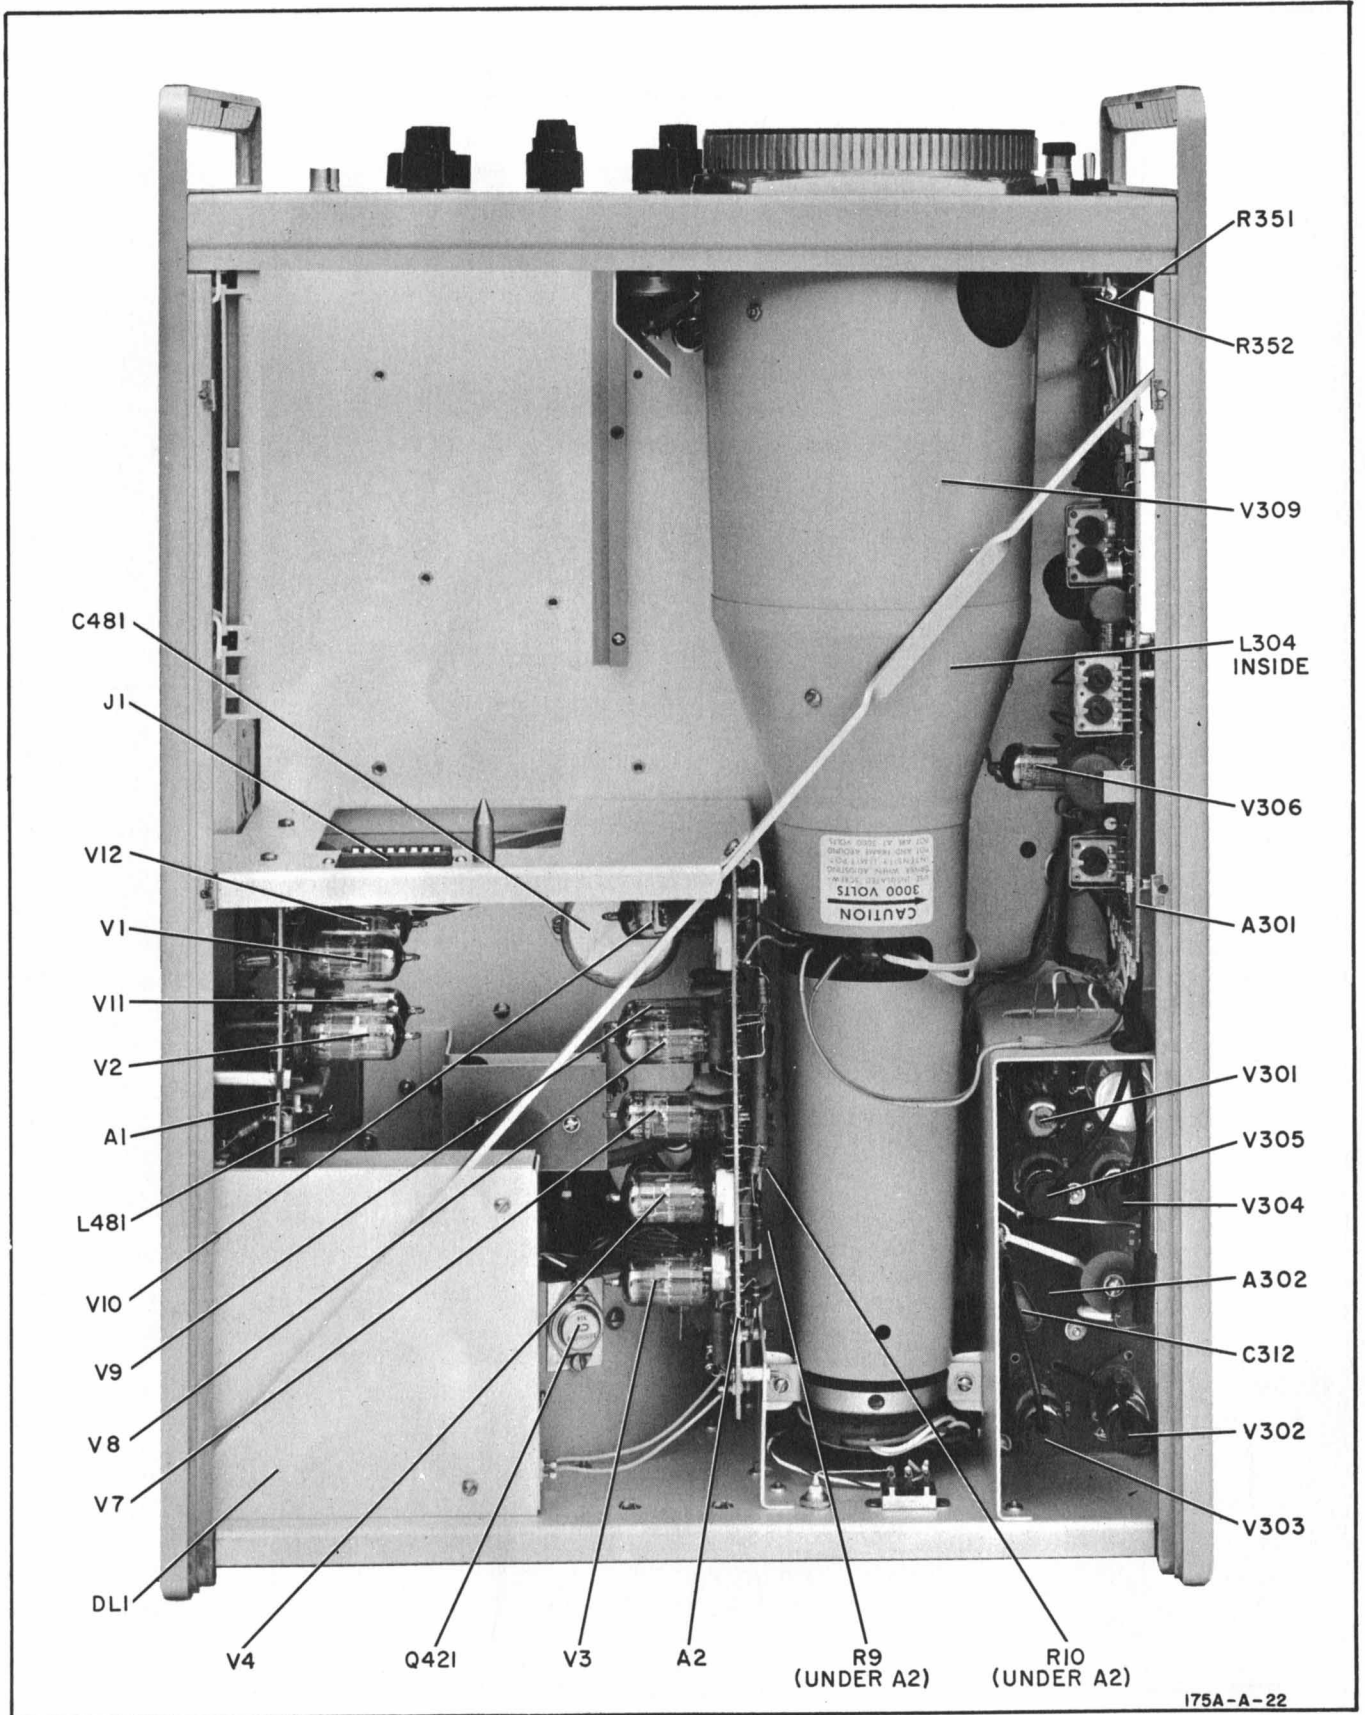

Figure 5-12. Model 175A Component Locations, Top View
- b. Remove all leads connected to neck of crt (see figure 5-12).